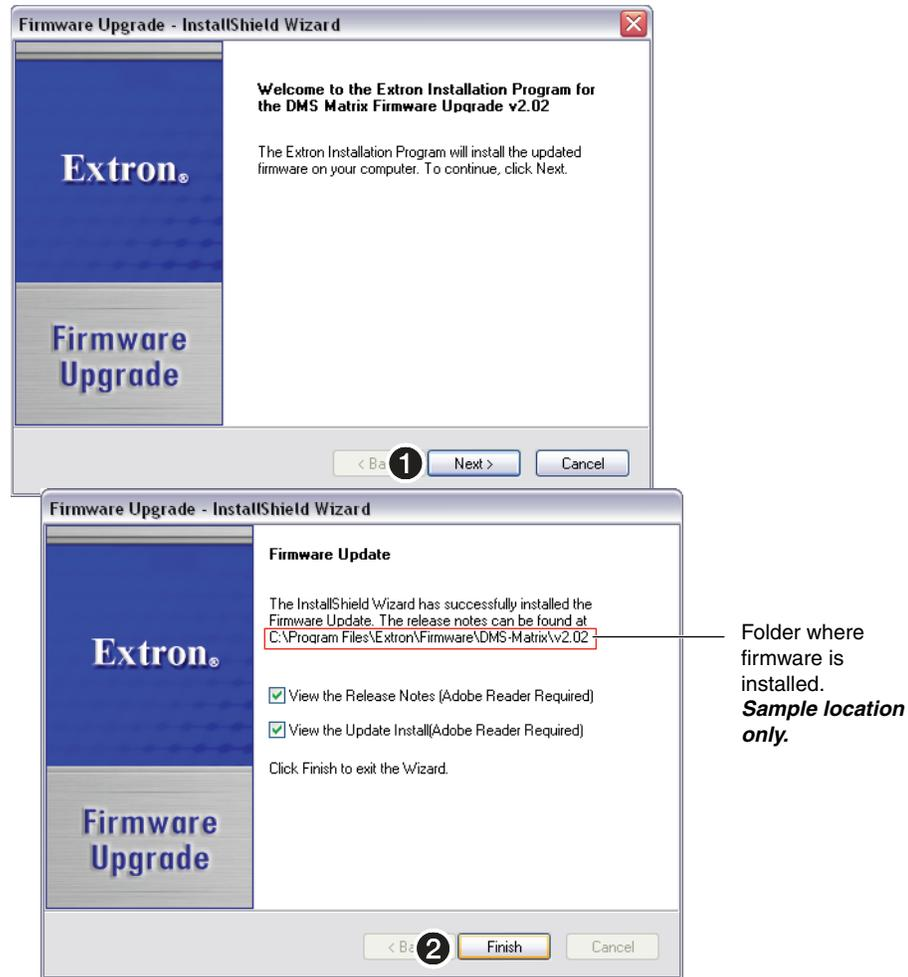

Figure 44. Downloading Firmware Upgrade Files – InstallShield
The InstallShield Wizard opens (see **figure 44** on the next page).
3. Click **Next** (see figure 44, ①). The program extracts the firmware files and places them in a folder identified in the **InstallShield Wizard** window. Note the folder to which the firmware file is saved.
4. Click **Finish** to exit the program (②).